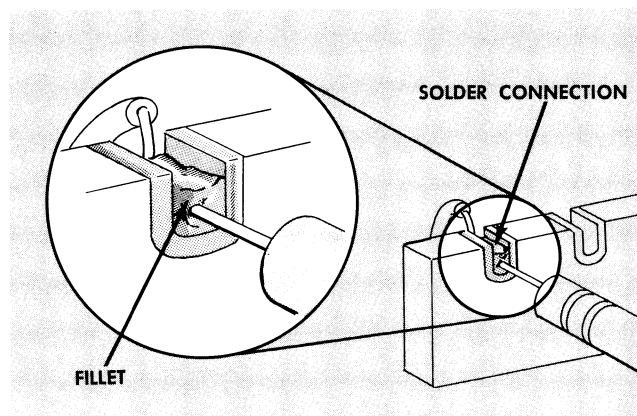

Fig. 5-2. A slight fillet of solder is formed around the wire when heat is applied correctly.
5. Do not attempt to fill the notch on the strip with solder; instead apply only enough solder to cover the wires adequately, and to form a slight fillet on the wire as shown in Fig. 5-2. If the lead extends beyond the solder joint,